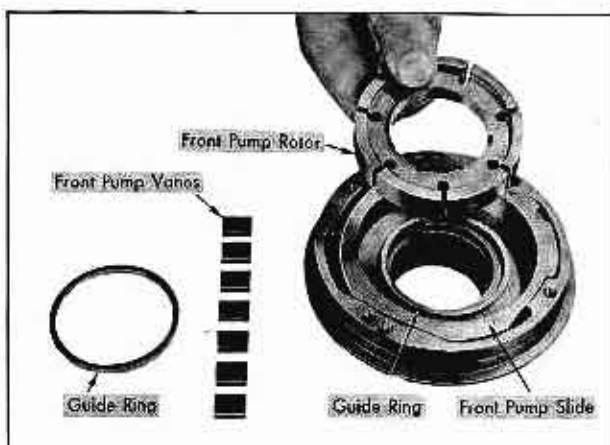

Fig. 14-50 Removing Front Pump Rotor
8. Remove two guide rings, rotor, and seven vanes. Fig. 14-50.